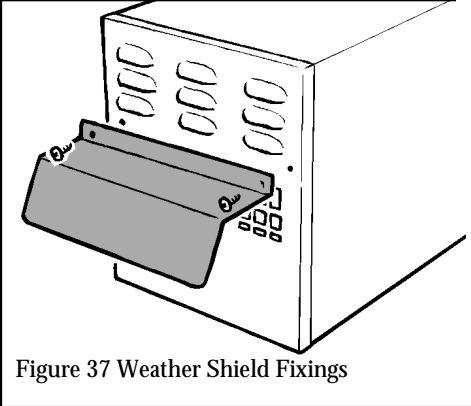

Figure 37 Weather Shield Fixings
14.12.2 Detach the weather shield and flue box end plate by removing two screws (figure 37).